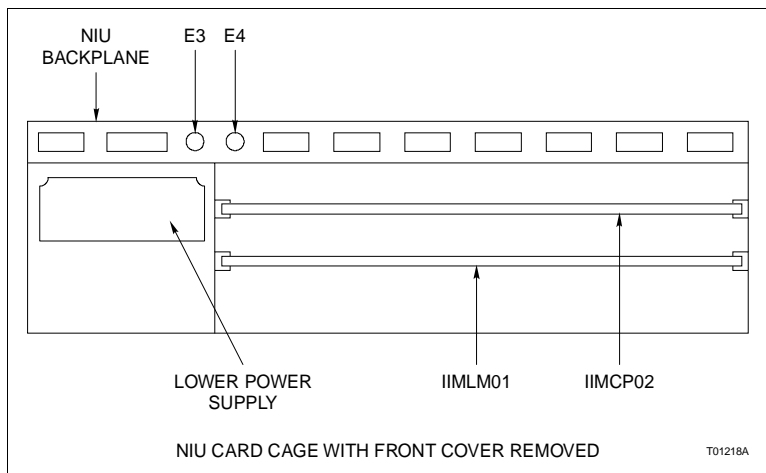

Figure PR31-2. NIU Card Cage with Covers Removed
- 5. Unplug and remove the IIMLM01 module from the NIU backplane (Fig. PR31-2).